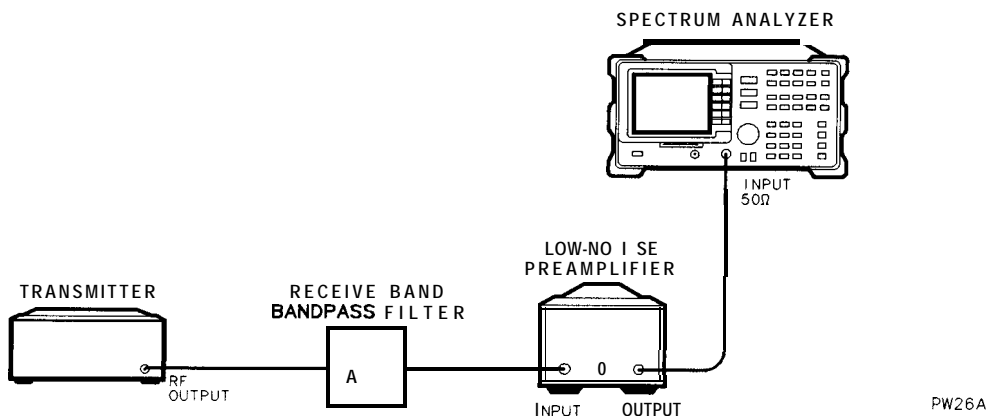

Figure 3-20. Test Setup for Spurious Emissions - RX Band
7. Press **RX BAND** . For RX band spurious emissions measurements, a caution and instruction message appears on the display. Connect the receive-band BPF and the preamplifier as illustrated in Figure 3-20.